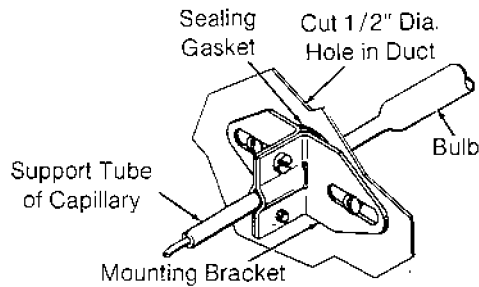

Figure-4 Duct Mounting with AT-208.
**Duct:** Install bulb with AT-208 kit as shown in Figure-4.